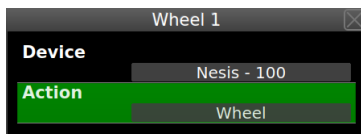

Figure 4.25: Joyu wheel movement was assigned to Aetos with serial number 100. Action in this case is knob rotate action, which equals to wheel.
4. Rotate a wheel. Same window appears, but with less options. Figure 4.25 illustrates an example.